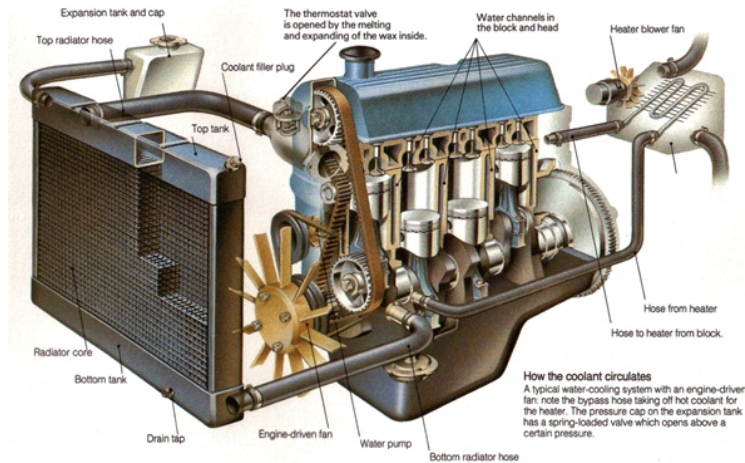

Fig. 2.12.10 Water Cooling System
2. As per the diagram below(Refer to Figure 2.12.10) explain the Water Cooling system to the participants.